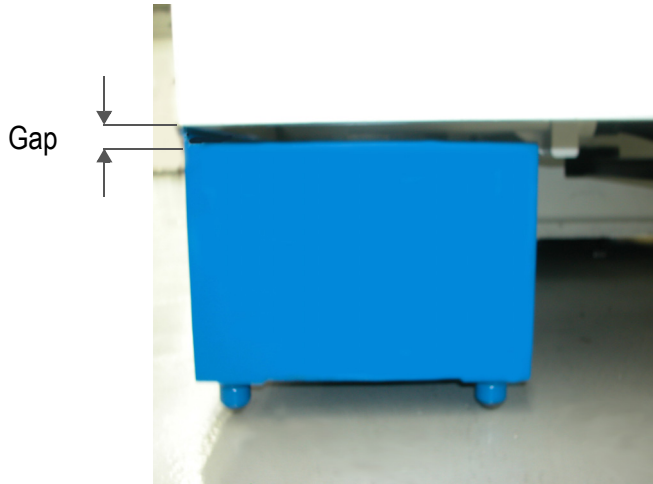

Figure 3-17: Minimize Gap or Overlap
7. Adjust the machine height (during leveling and installation) to minimize the gap (or overlap) between the coolant tank face and the machine sheet metal, (*Figure 3-17: Minimize Gap of Overlap*).